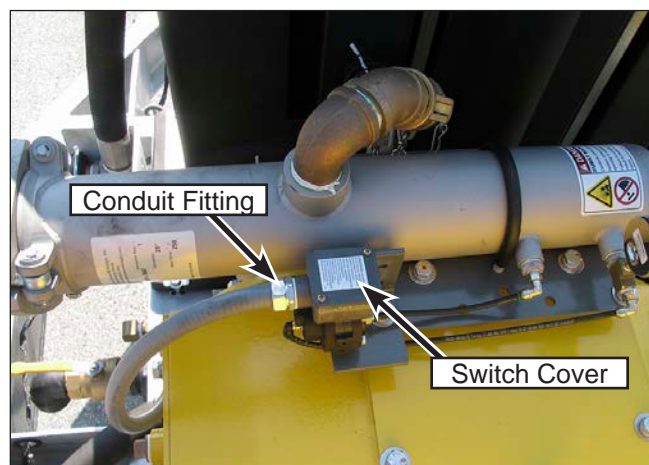

Figure 126: 40K Switch Wiring.
4. If equipped, the secondary filter switch must be disconnected. Remove the two screws that secure the switch cover (Figure 126) and disconnect the wiring. Unscrew the conduit fitting from the switch housing and lay the conduit and wiring aside.